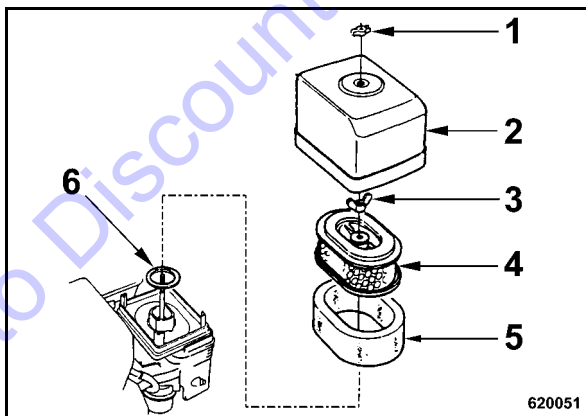

Fig. 44
- Unscrew wing nut (1) (Fig. 44) and remove the housing cover (2).
- Unscrew wing nut (3) and take off paper element (4) with the foam rubber insert (5).
- Check the rubber seal (6), replace if necessary.